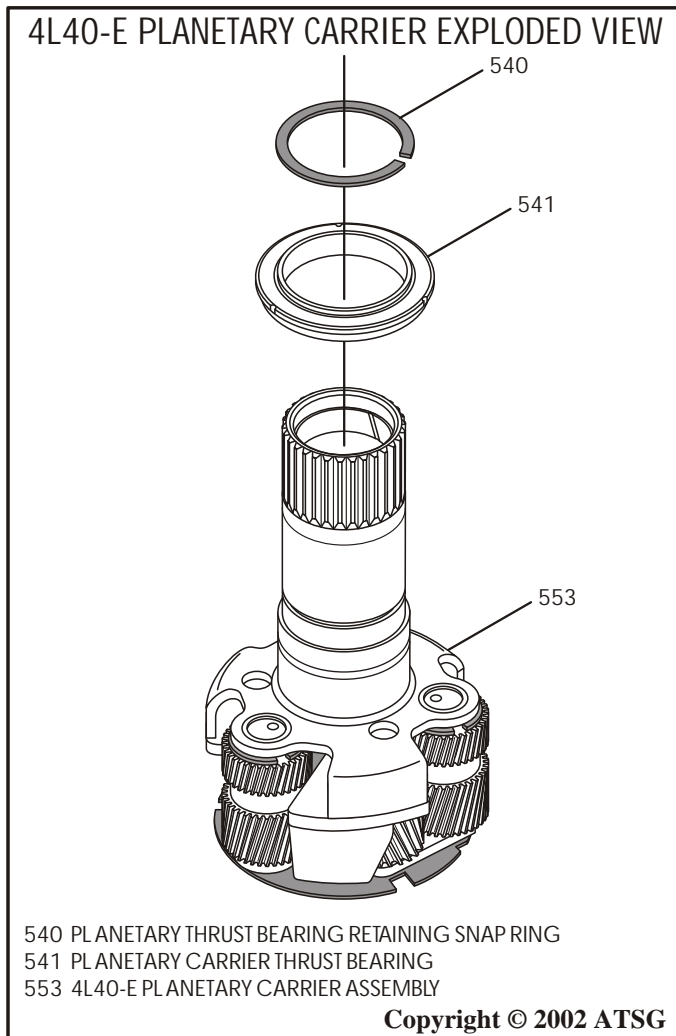

Figure 159
1. Install thrust bearing (541) onto the 4L40-E planetary carrier, as shown in Figure 159, and down flush on step.
2. Install the retaining snap ring onto planetary carrier, as shown in Figure 159, and ensure that it is fully seated.